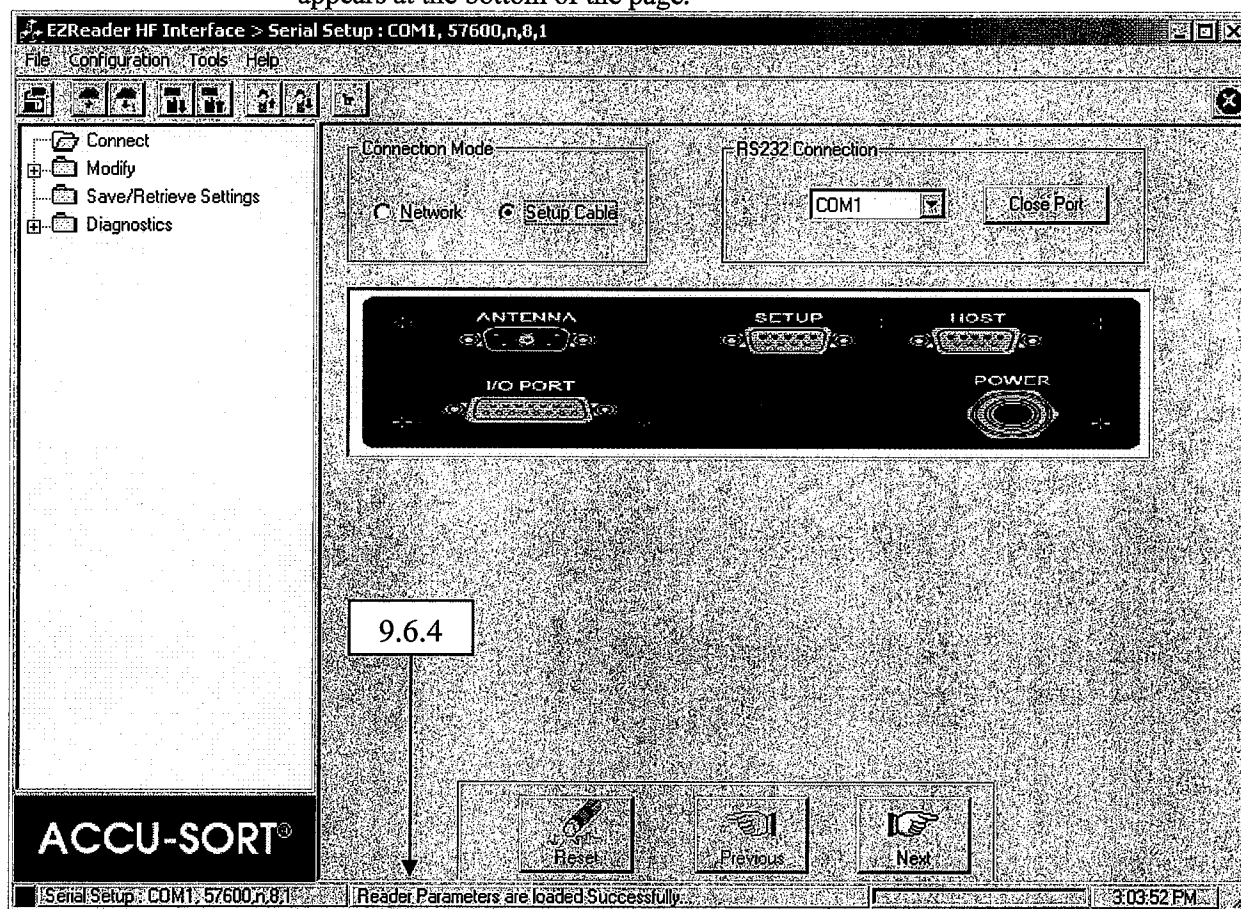

Figure 11
- 9.6.3 Click on the Connect folder and then select Setup Cable under the Connection Mode and click the Open Port Button ensuring that COM1 is selected. Your screen should now look like Figure 11.